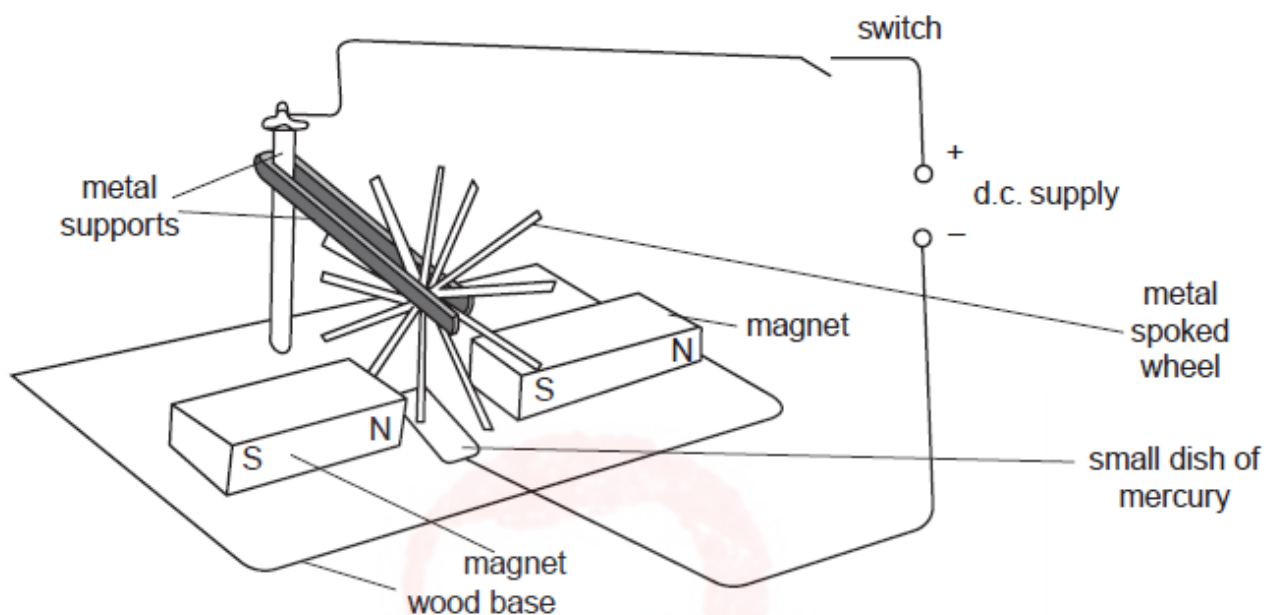

Fig. 9.1
- 9 Fig. 9.1 is a sketch of some apparatus, found in a Science museum, which was once used to show how electrical energy can be converted into kinetic energy.
- (b) On Fig. 9.1, draw an arrow to show the direction of rotation of the wheel.